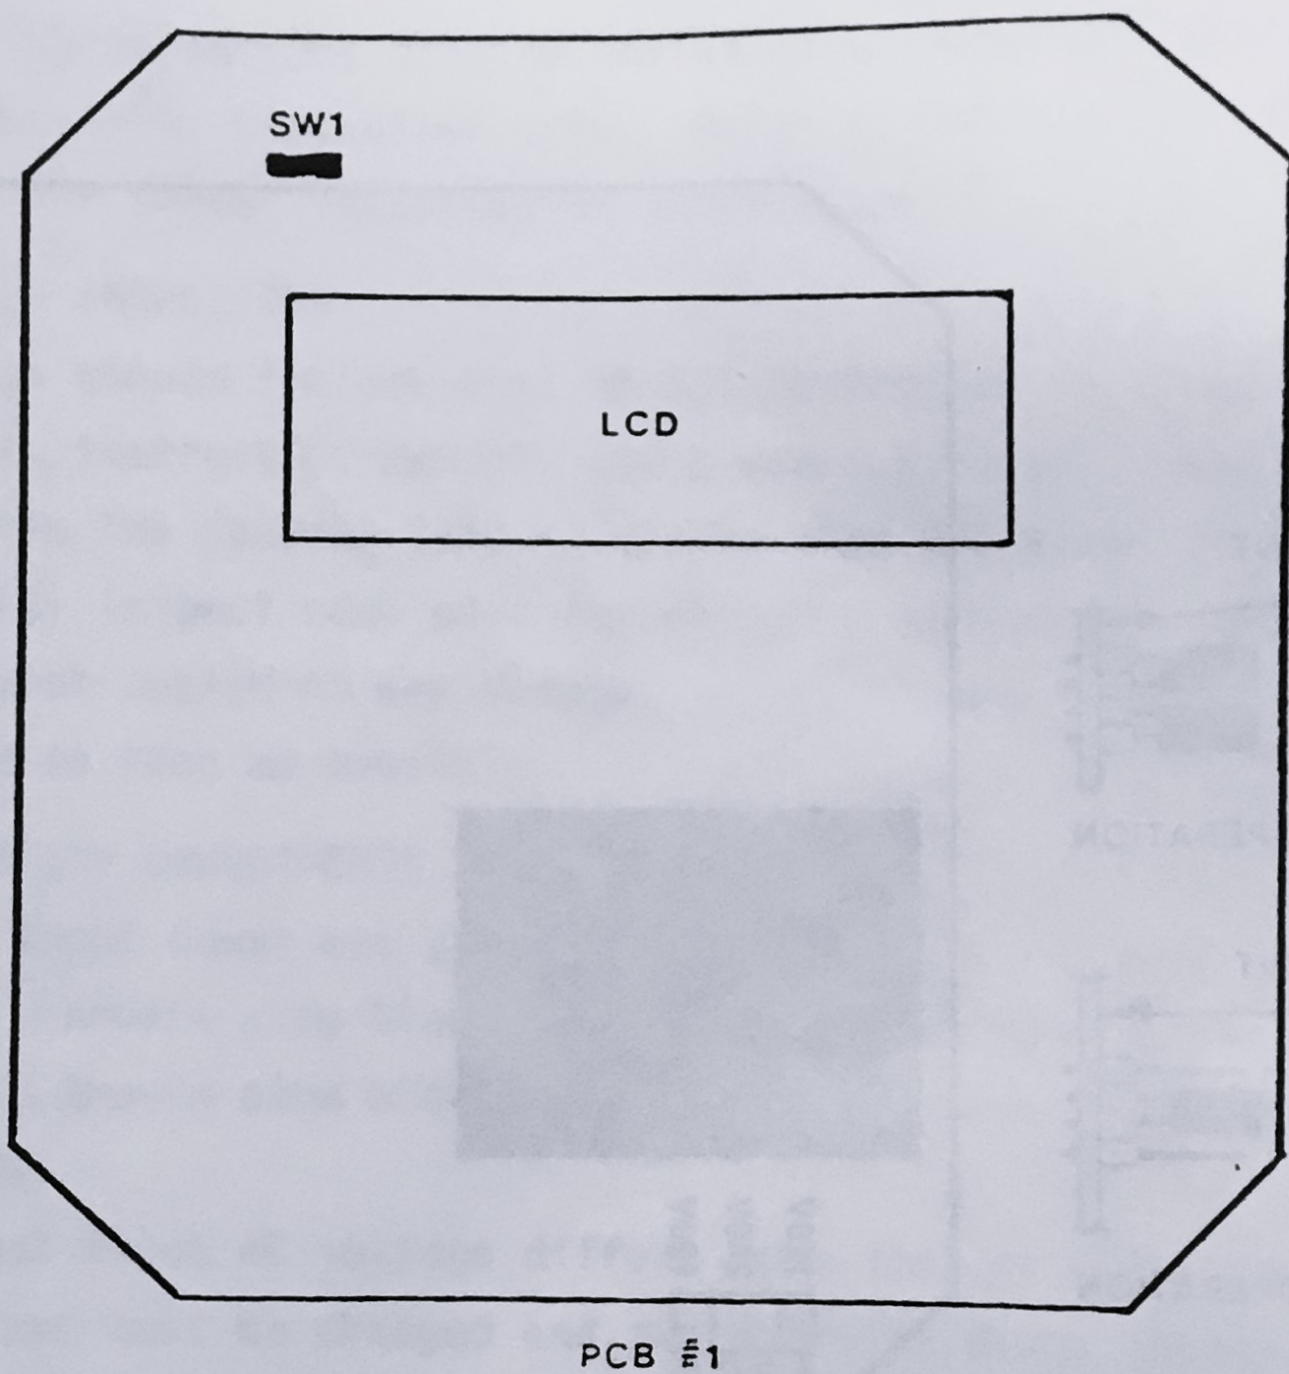

Figure 3. P.C.Board #1.
- 4) Refer to figure 3 and locate the shorting plugs on the component side of PCB #2.
Switch SW1 (figure 3) is used to power-on/reset the 3-volt Lithium back-up battery. In the ON position, battery power is constantly applied to the micro-processor circuitry whether AC power is applied or not. Thus, no data is lost in the event of failure of the AC power. The MK 811 Controller is shipped with this switch in the ON position.